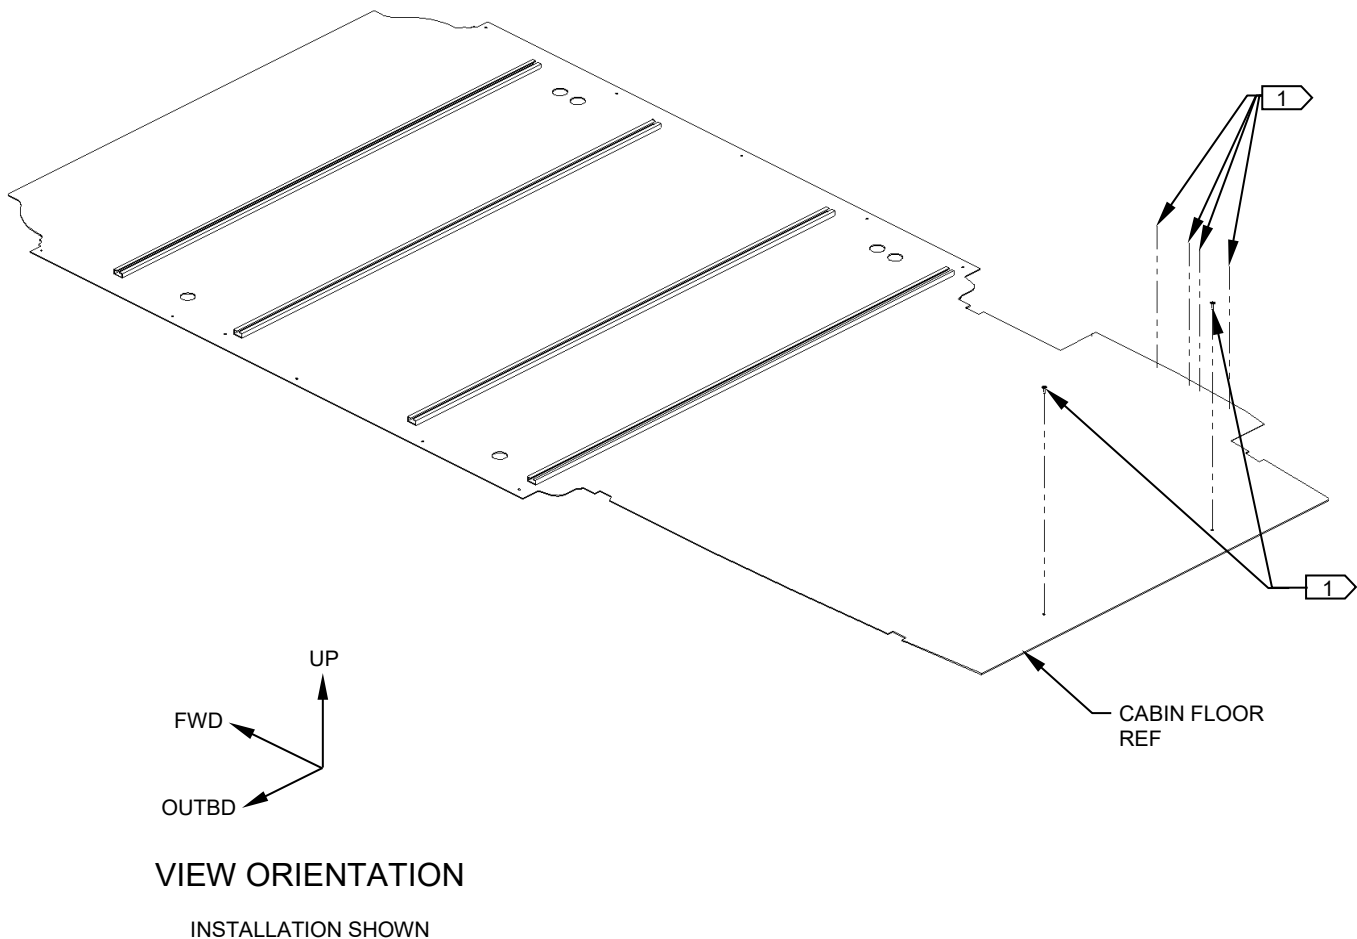

**Figure 8**
1. Gain access to the AFT section of the cabin floor. Remove OEM auxiliary tank and attachment assemblies; rear attachment assemblies are integral to fuel tank. Fuel tank not shown for clarity. Reference Figure 8.